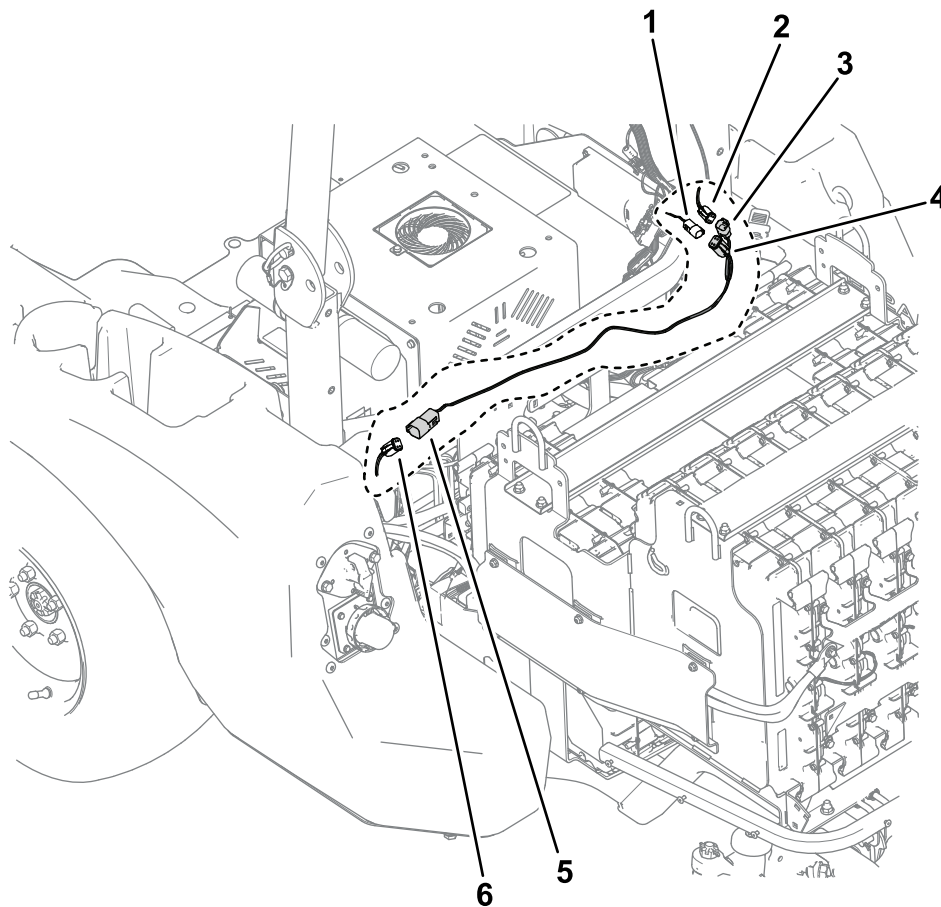

Figure 9
1. Raise the hood and install the connector for the sunshade wire harness labeled P08—WORK LIGHT KIT POWER to the connector for the jumper wire harness labeled P02—TO SUNSHADE HARNESS (Figure 9).
2. Install the connector for the jumper wire harness labeled P03—TO MAIN HARNESS to the connector on the machine wire harness labeled P19—WORK LIGHT KIT POWER (Figure 9).
3. Route the connector for the jumper wire harness labeled P01—TO EXPANSION PORT along the machine wire harness to the left side of the machine and install it to the connector labeled P17—EXPANSION PORT (Figure 9).